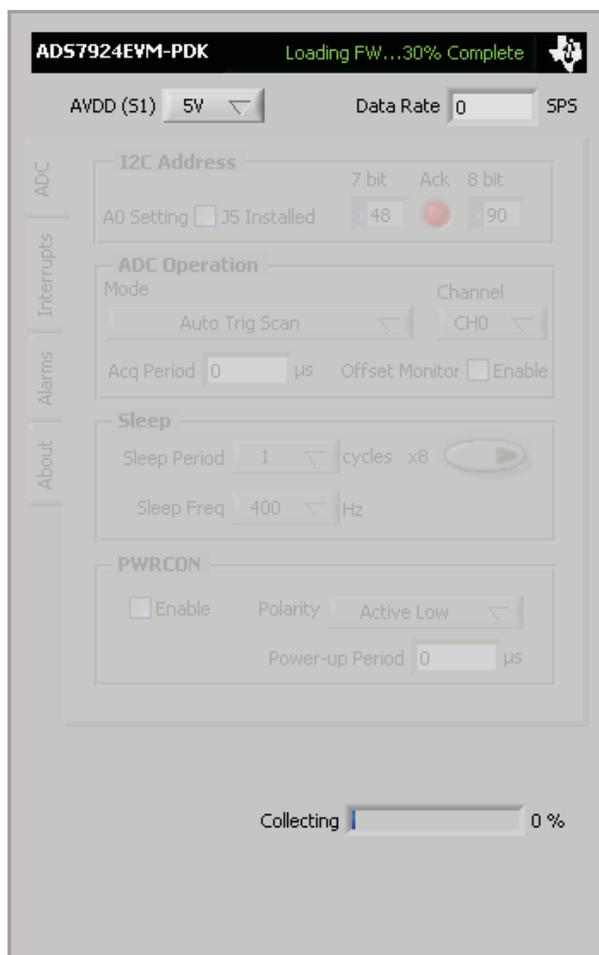

Figure 12. Firmware Download Progress Indicator
6. Switch the BSL switch (SW4) on the MMB3 to the BSL position (to the left) as instructed, then press **OK**. The plug-in will download the firmware to the MMB3. This operation may take a couple of minutes, so the progress is updated in the message at the top of the ADS7924 plug-in window (as Figure 12 shows). The firmware is saved in flash memory on the MMB3, so this operation should need to only be performed once.